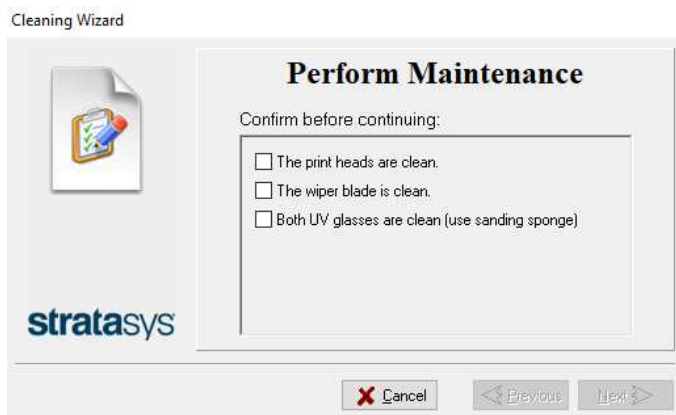

Figure 4-57 Wizard screen during cleaning tasks
13. Select the confirmation check boxes in the wizard screen (see Figure 4-57) and click **Next**.